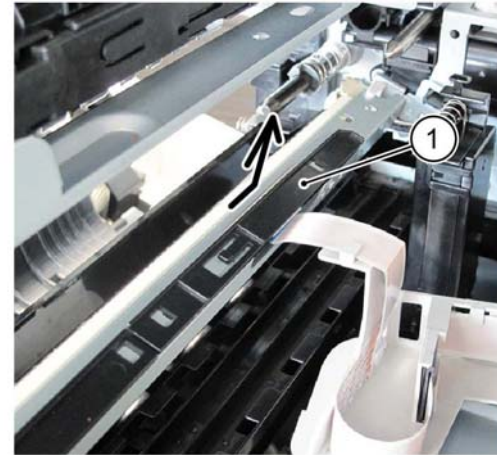

Figure 7 CRU guide removal
9. Pull up the center tab (1), move the CRU guide toward the rear, then remove it, Figure 7.